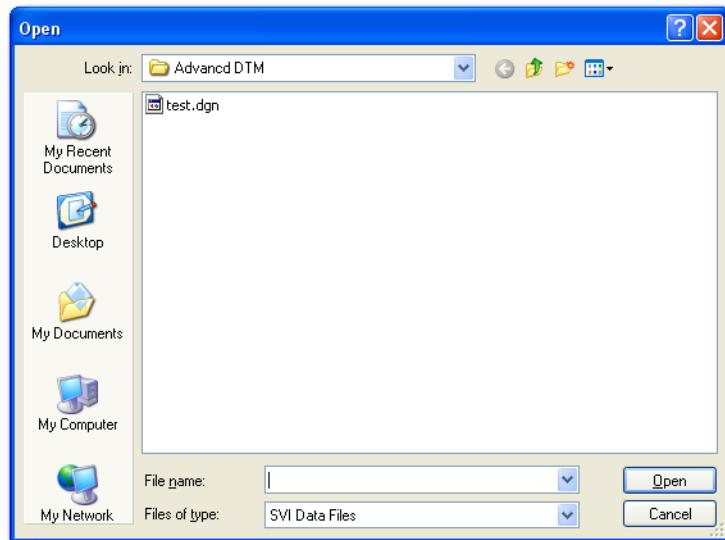

Figure 89 SVI Files Open Dialog
1. Use the pulldown list to select *Signature from file*, click **Load** and Figure 89 appears.